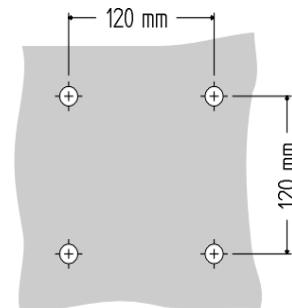

Fig. 8
- Drill four ø8 holes, 45mm deep, in the wall as shown in Fig. 8;